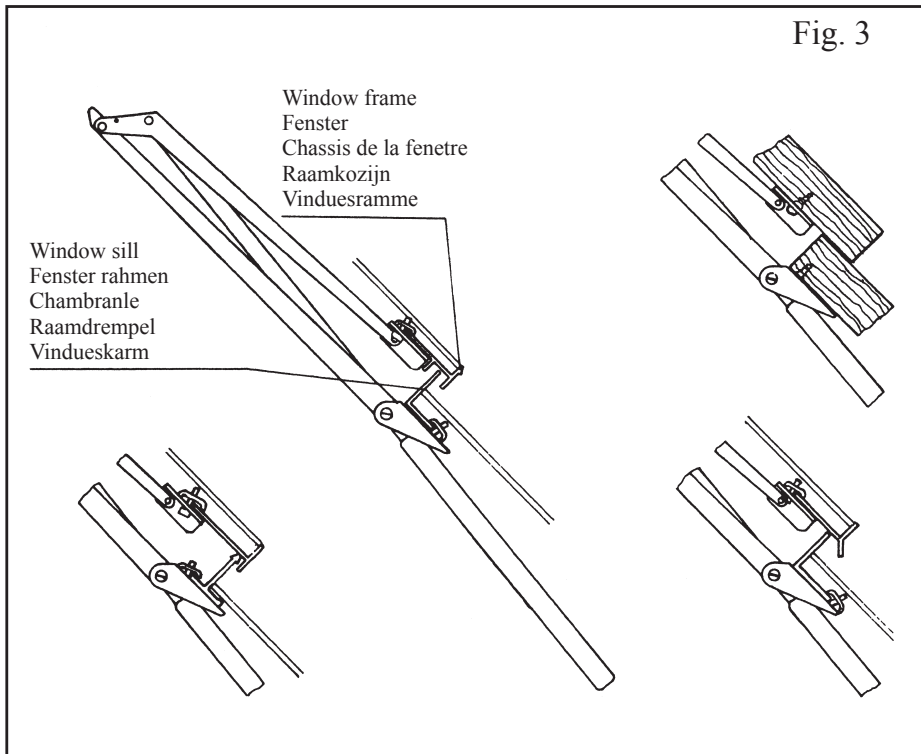

Fig. 3
- 2a. On most greenhouses made out of aluminium Fitting is done using the enclosed clamps (11) - see Fig.3. Fit one clamp loosely onto the windowbracket (10) of the opener using the enclosed screws. Choose the most suitable holes